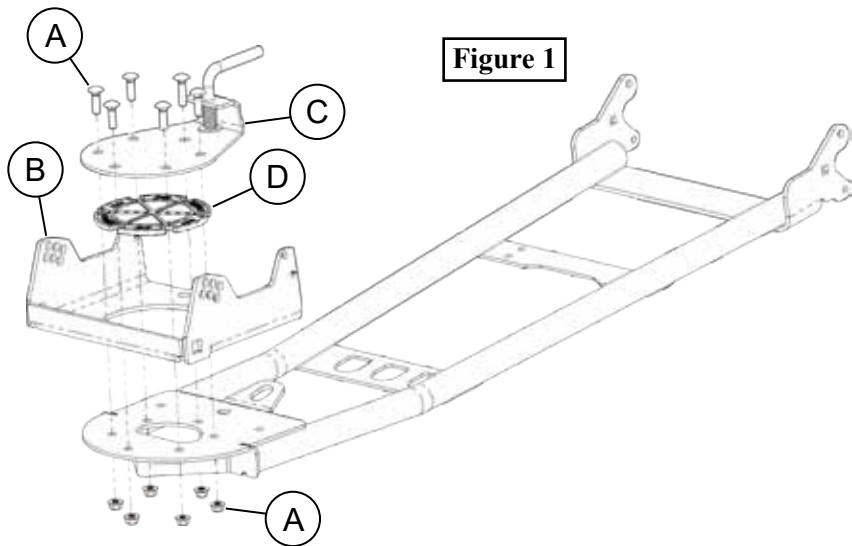

Figure 1
1. Unbolt hardware (A) and remove cradle (B), Lift latch assembly (C), and pivot bushing (D) shown in **Figure 1**.